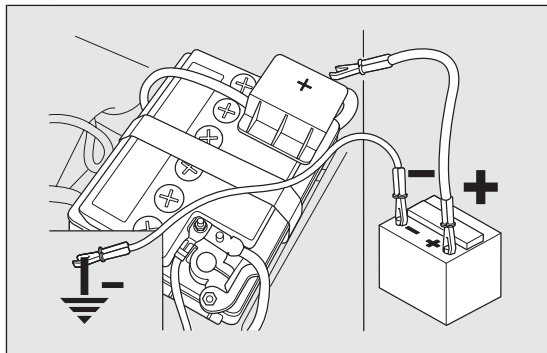

fig. 140
- ☐ connect the positive terminals (sign + near the terminal) of the two batteries with a jump lead fig. 140